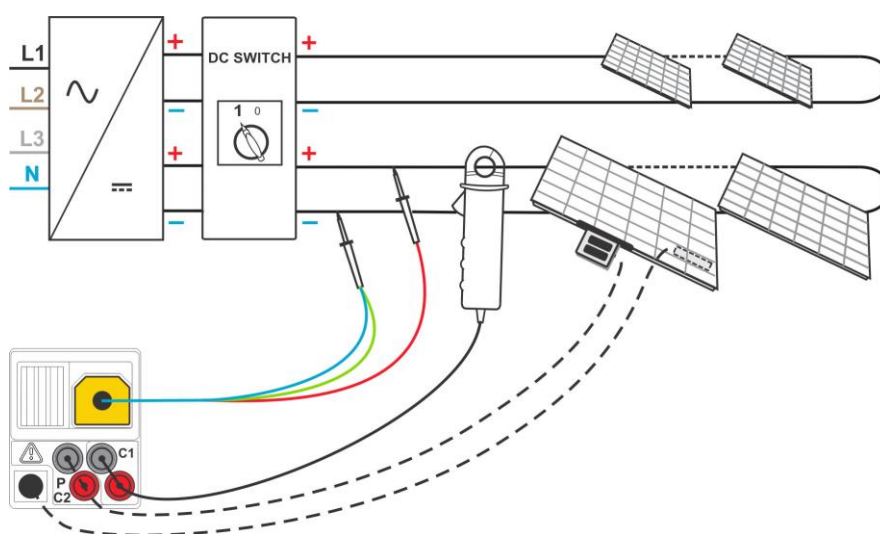
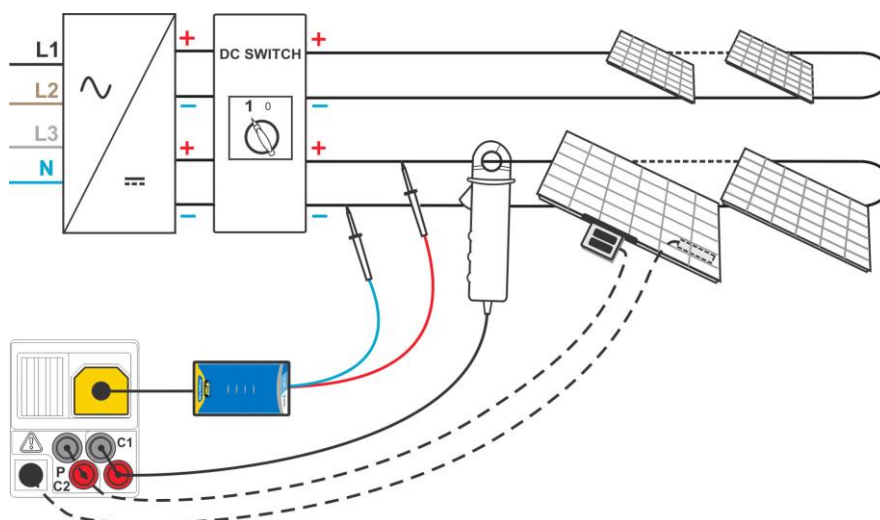

Figure 5.27: Connection with universal PV test lead
Figure 5.28: Connection with PV safety probe
- ❑ **Connect** universal PV test lead / PV safety probe, current clamp(s) and sensors to the instrument (see **Figure 5.27** and **Figure 5.28**).
- ❑ **Connect** accessories to the PV system to be tested (see **Figure 5.27** and **Figure 5.28**).